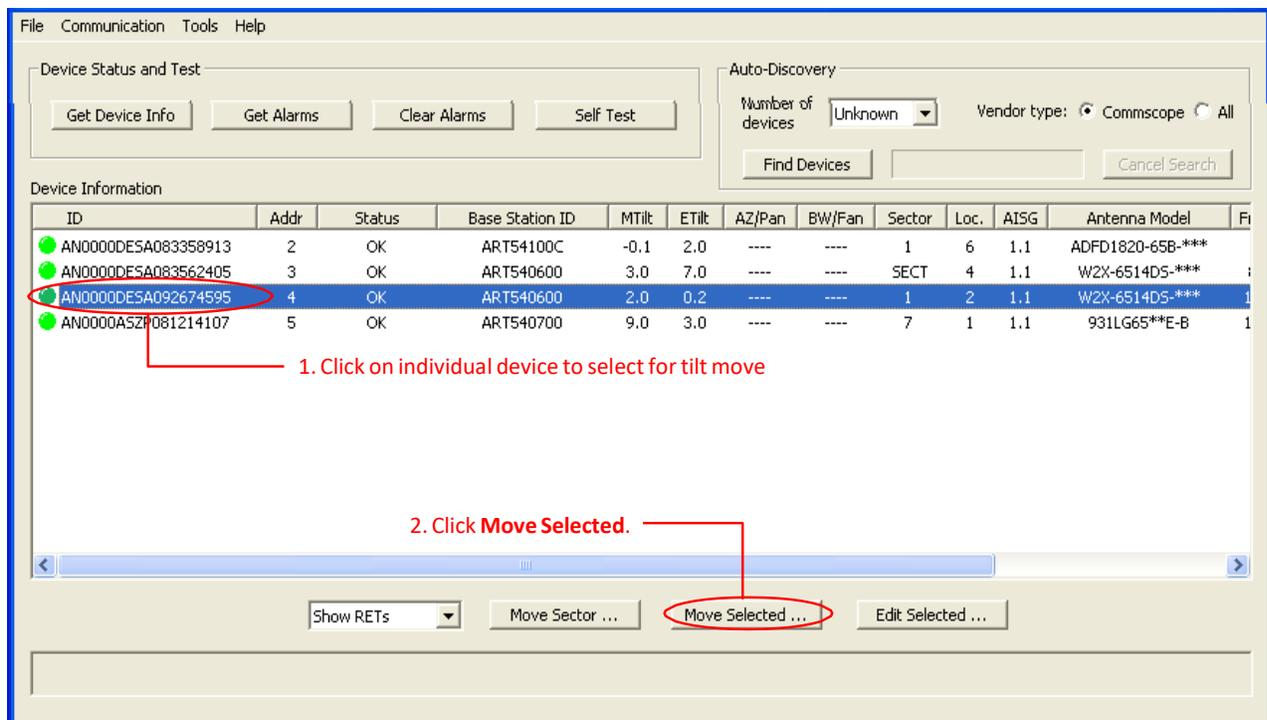

Figure 7-1. Selecting Device for Electrical Downtilt Adjustment.
2. From the **Device Information** list, click on the device to be moved (Figure 7-1).
3. Click **Move Selected** at the bottom of the screen (Figure 7-1).